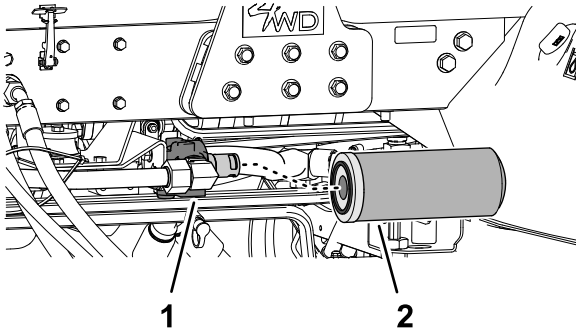

Figure 117
- Clean the area around the return filter and filter head (Figure 117).